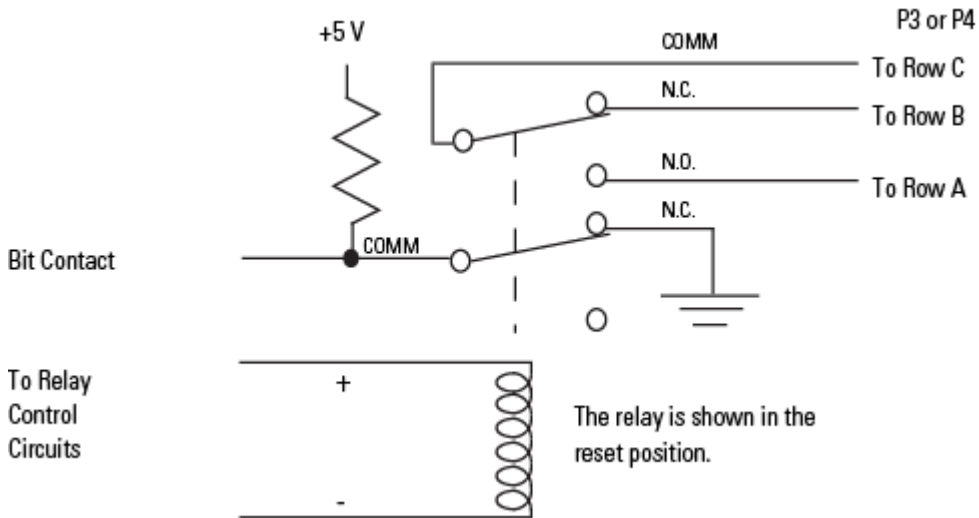

Figure 1. A Typical Relay Circuit
**Introduction:** The VMIVME-2210\* provides 64 One Form C (SPDT) contacts to the user via two 96-pin DIN connectors. These relays are the magnetic latching type which means that, once a contact is set it will remain set (even if power is removed from the relay) until it is reset. All three contact points are brought out via the connector. They are the N.O. (Normally Open), N.C. (Normally Closed), and the Common contact points. The N.O. and the Common can be used to create One Form A contacts while the N.C. and common can be used as One Form B contacts. The N.O. contacts are on Row A of the connectors and the common contacts are on Row C of the connector as shown in Figure 1. This arrangement permits 64-conductor cables to be used for Form A switches.